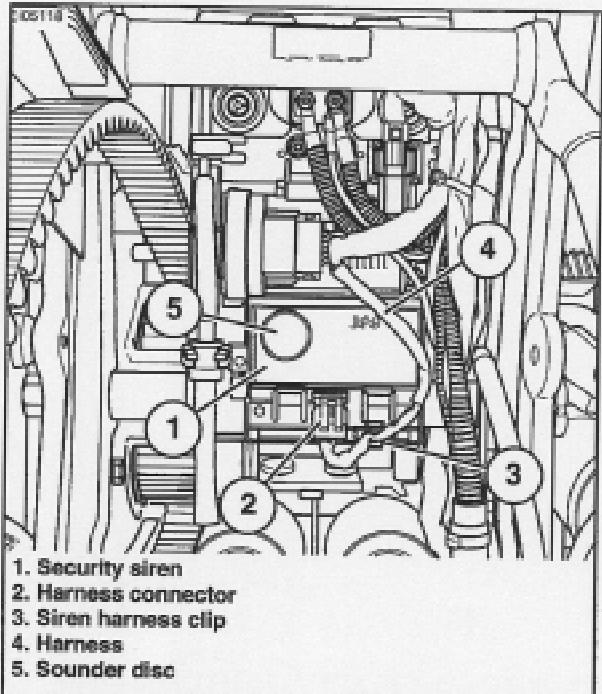

Figure 12. Security Siren Mounting (Softail Models)
6. See Figure 12. Orient the siren (1) as shown, with the harness connector (2) toward the bottom and the sounder disc (5) facing outward. Carefully snap the siren into the electrical panel.
7. Insert the harness (4) into the harness clip (3) to keep the harness clear of other components.